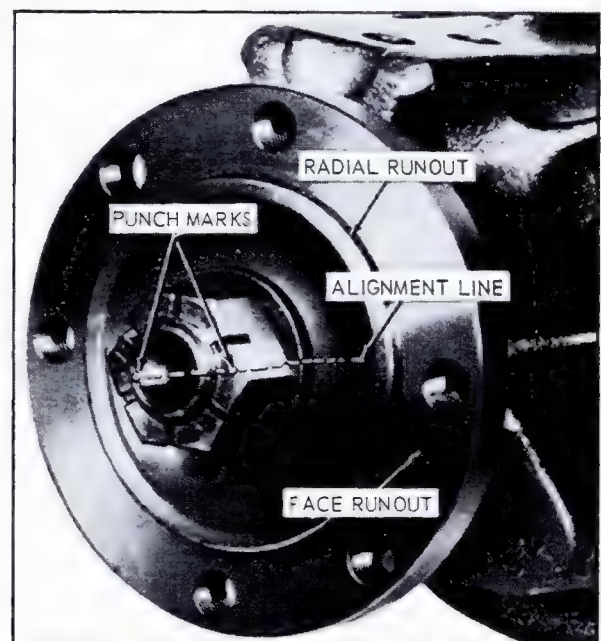

Fig. 4-44 Checking Pinion Flange Run-Out
a. Scribe a line on end of pinion stem, extending down along side of stem threads, over companion flange nut and onto companion flange, Fig. 4-44.
4. Clamp Dial Indicator Set, J-8001, on nose bumper arm and position dial indicator stem to face of differential carrier between mounting bolt holes and pilot diameter, Fig. 4-44.
6. Attach Dial Indicator Extension, J-7057, to dial indicator. Position extension against side of pilot diameter of the differential carrier pinion flange, Fig. 4-44.